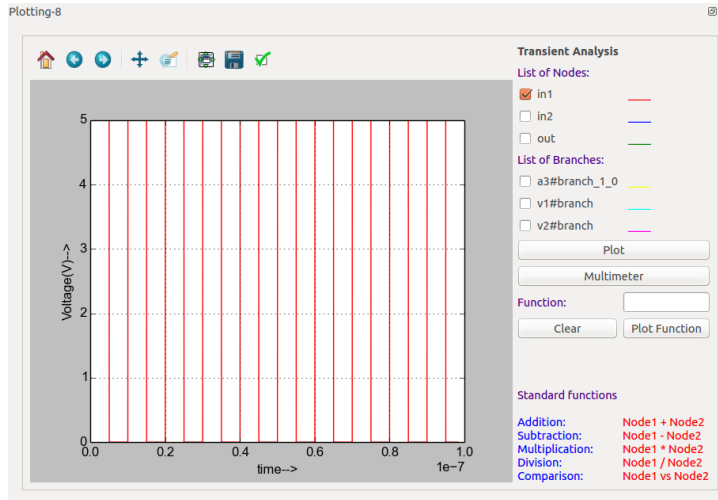
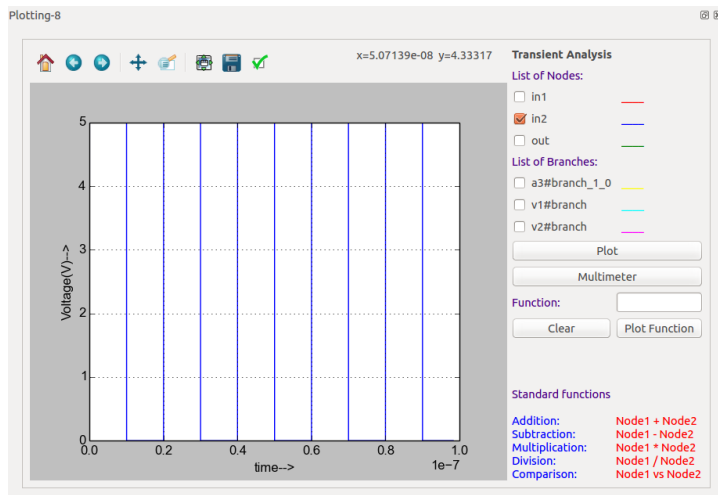
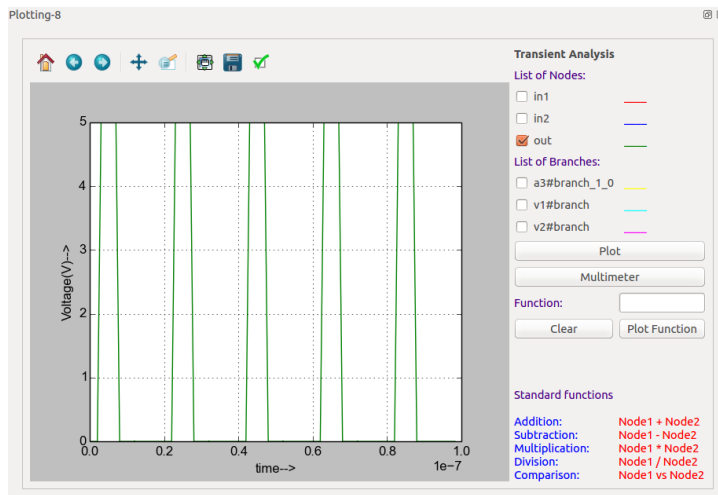

Figure 10.17: Plot of Source V1
Figure 10.18: Plot of source V2
Figure 10.19: Plot of output
- Now select the required nodes and click on **Plot** button. You can see the plots of input source v1, input source v2 and output as shown in Fig. 10.17, Fig. 10.18, and Fig. 10.19 respectively.